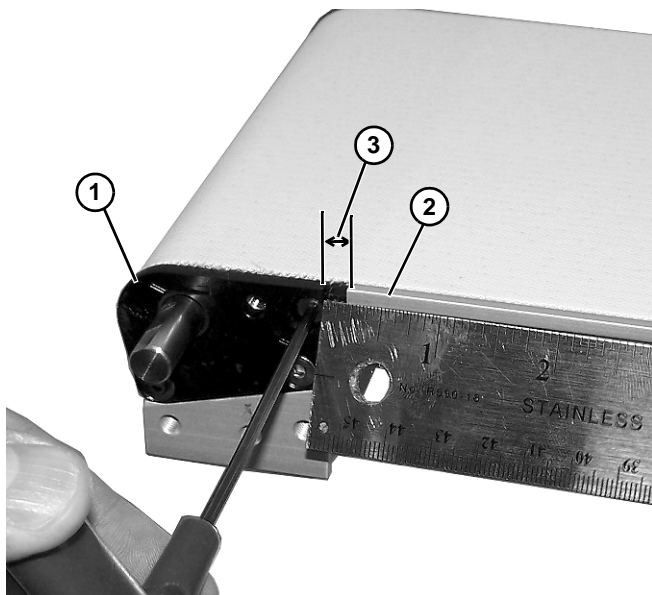

Figure 25
2. Adjust head plate assembly so the edge of the drive tail plate (**Figure 25, item 1**) is separated from the end of the conveyor frame (**Figure 25, item 2**) by 0.19" (4.8 mm) (**Figure 25, item 3**), and tighten screws (**Figure 25, item 2**) to 12 in-lb (1.4 Nm).